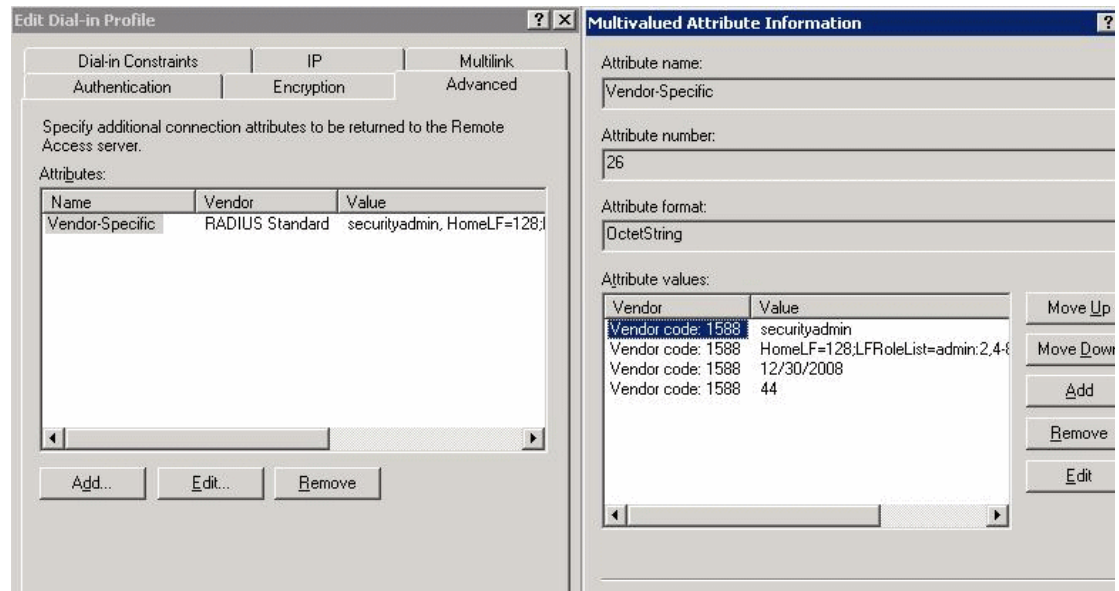

FIGURE 15 Windows 2000 VSA configuration
To configure a Windows 2000 internet authentication service (IAS) server to use VSA to pass the Admin role to the switch in the dial-in profile, the configuration specifies the Vendor code (1588), Vendor-assigned attribute number (1), and attribute value (admin), as shown in Figure 15.